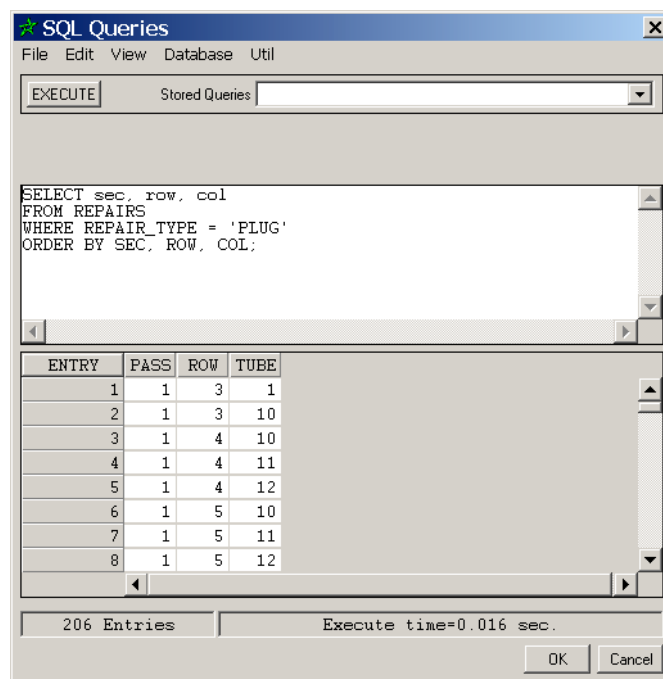

Figure 16-1. Executing a Query in the Query Dialog
- STEP 7:** Click the **Execute** button in the upper left of the **Query** dialog. As shown in Figure 16-1, a list of *206 entries* should appear in the lower section of the **Query** dialog.